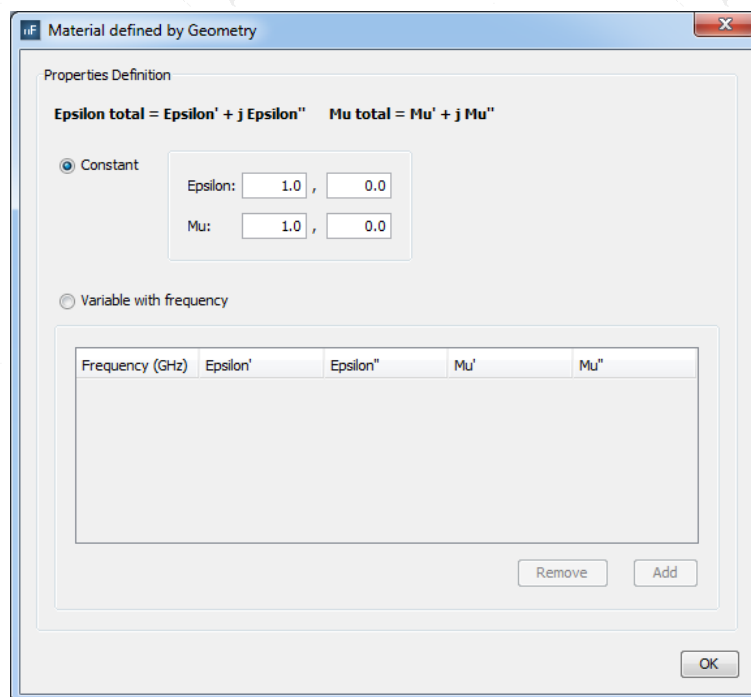
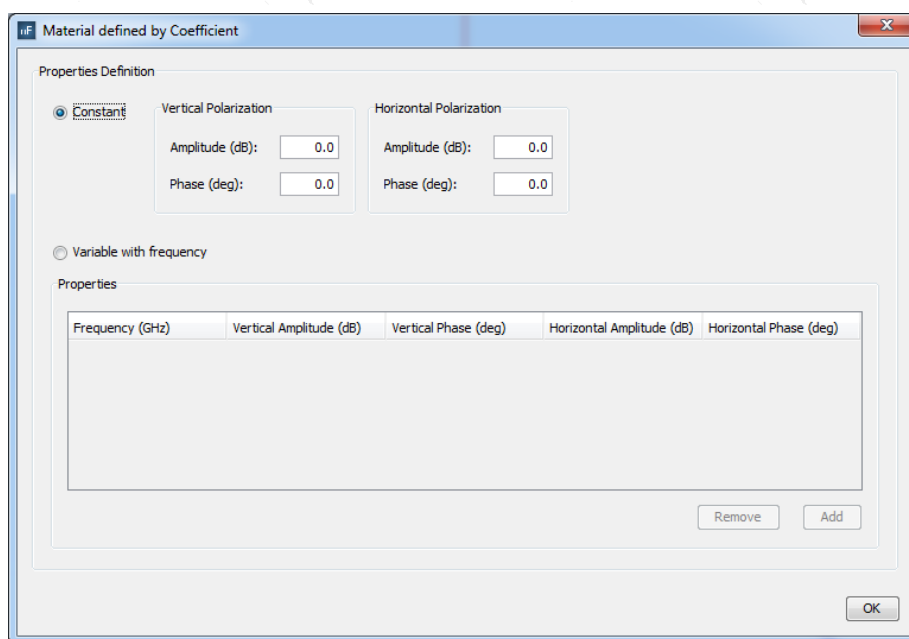

Figure 6: Material defined by Geometry window.
Figure 7: Material defined by Coefficient window.
- **Material Definition - Material defined by geometry.** Used to define a material according to its physical properties. After clicking on the *Set Parameters* button, two different options are available in the *Material defined by Geometry* window (Figure 6):
different options are available in the *Material defined by Coefficient* window (Figure 7):
type window (Figure 6 or Figure 7) is opened. The rest of the editing process may continue as explained in section “1. Add”.